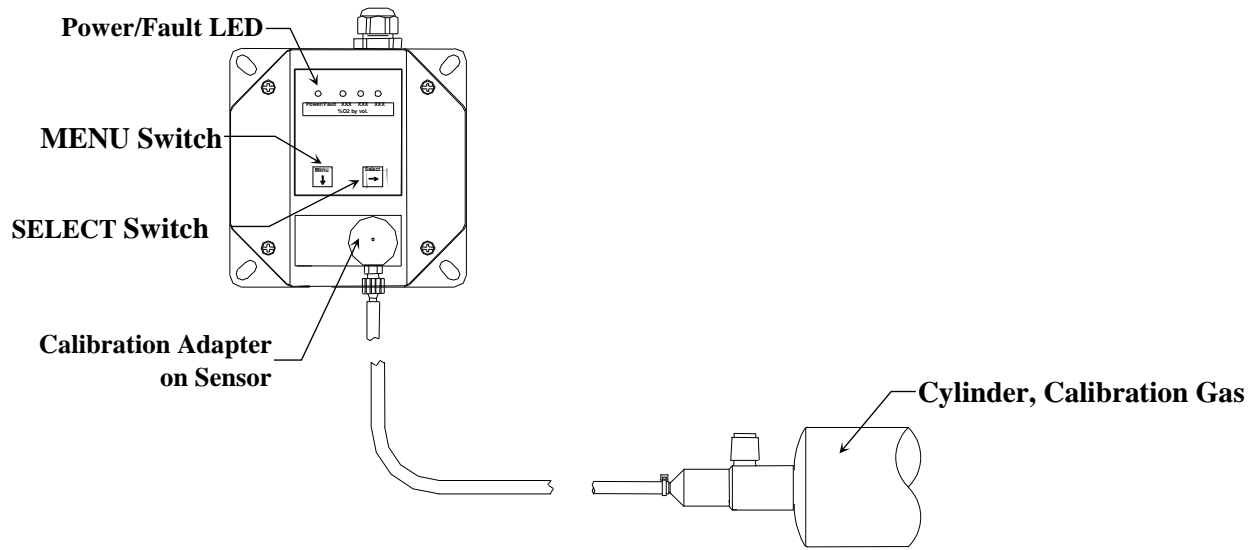

Figure 5: Calibration SE-5175-Long Life
3. Attach the associated calibration gas cylinder to the calibration adapter. See **Figure 5** on calibration adapter.